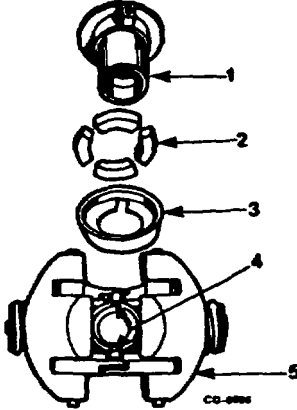

Figure 5. Exploded View of Damper Hub
3. Inspect damper buffers for damage. Pry up hub to inspect. Replace buffers as a set if needed (Figure 5).